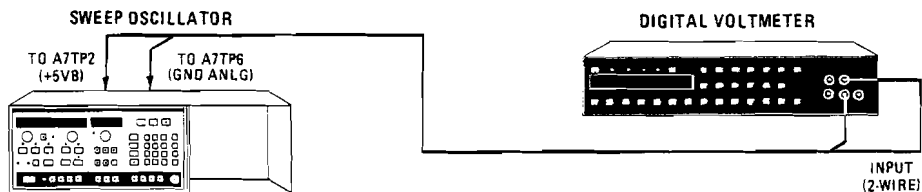

Figure 5-4. +5VB Power Supply Adjustment Setup.
3. Position the sweep oscillator upright as shown in Figure 5-4 and remove the top cover.